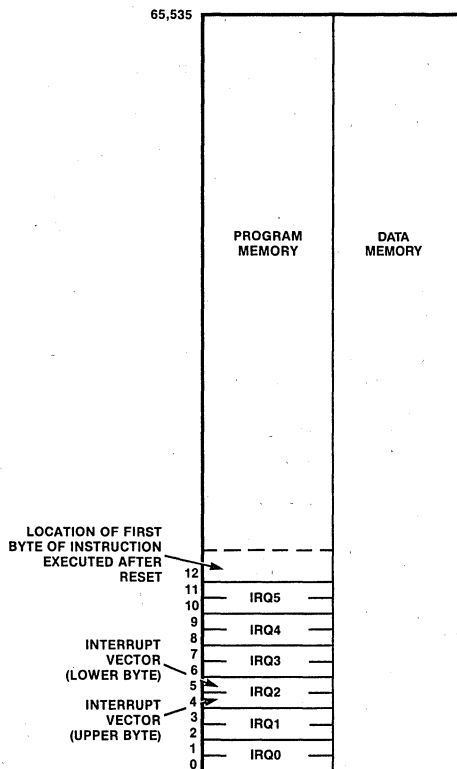

Figure 4. Program Memory Map
**Program Memory.** The Z8691 addresses 64K/62K bytes of external program memory space (Figure 4).